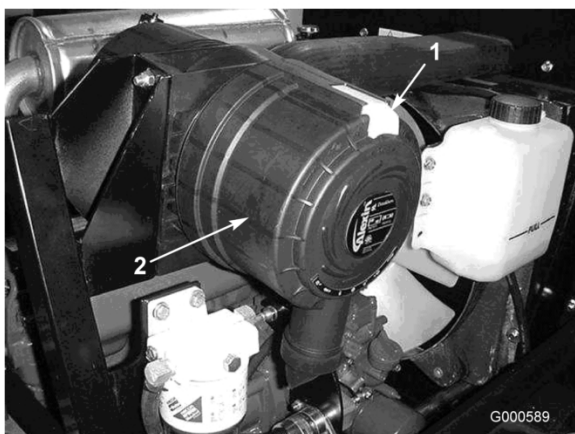

Figure 31
1. Pull the latch outward and rotate the air cleaner cover counterclockwise (Figure 31).